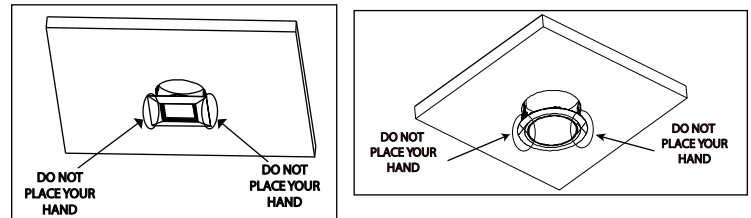

Figure 7 / Figura 7 / Schéma 7
- DO NOT PLACE YOUR HAND UNDERNEATH SPRING CLIP DURING REMOVAL PROCESS. SNAPPING OF THE CLIPS CAN CAUSE INJURIES TO THE HAND.** (Figure 7)